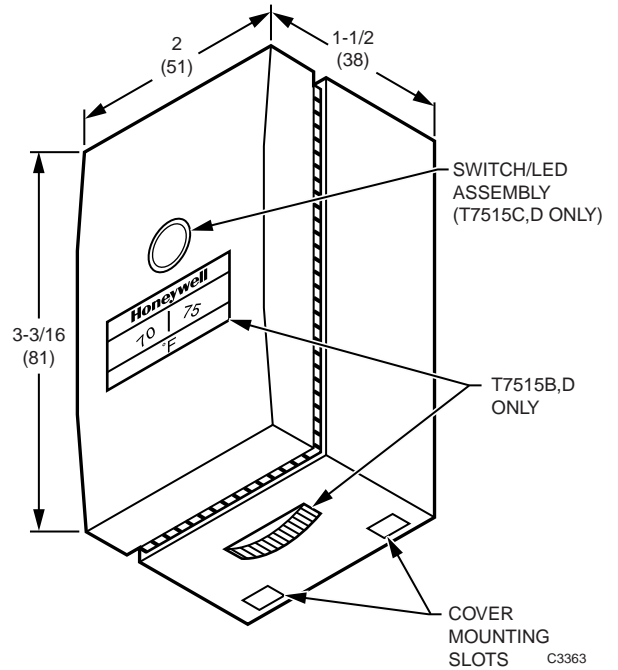

Fig. 4. Cover Mounting Details in Inches (Millimeters).
4. Mount the cover on the mounting plate (see Fig. 4).